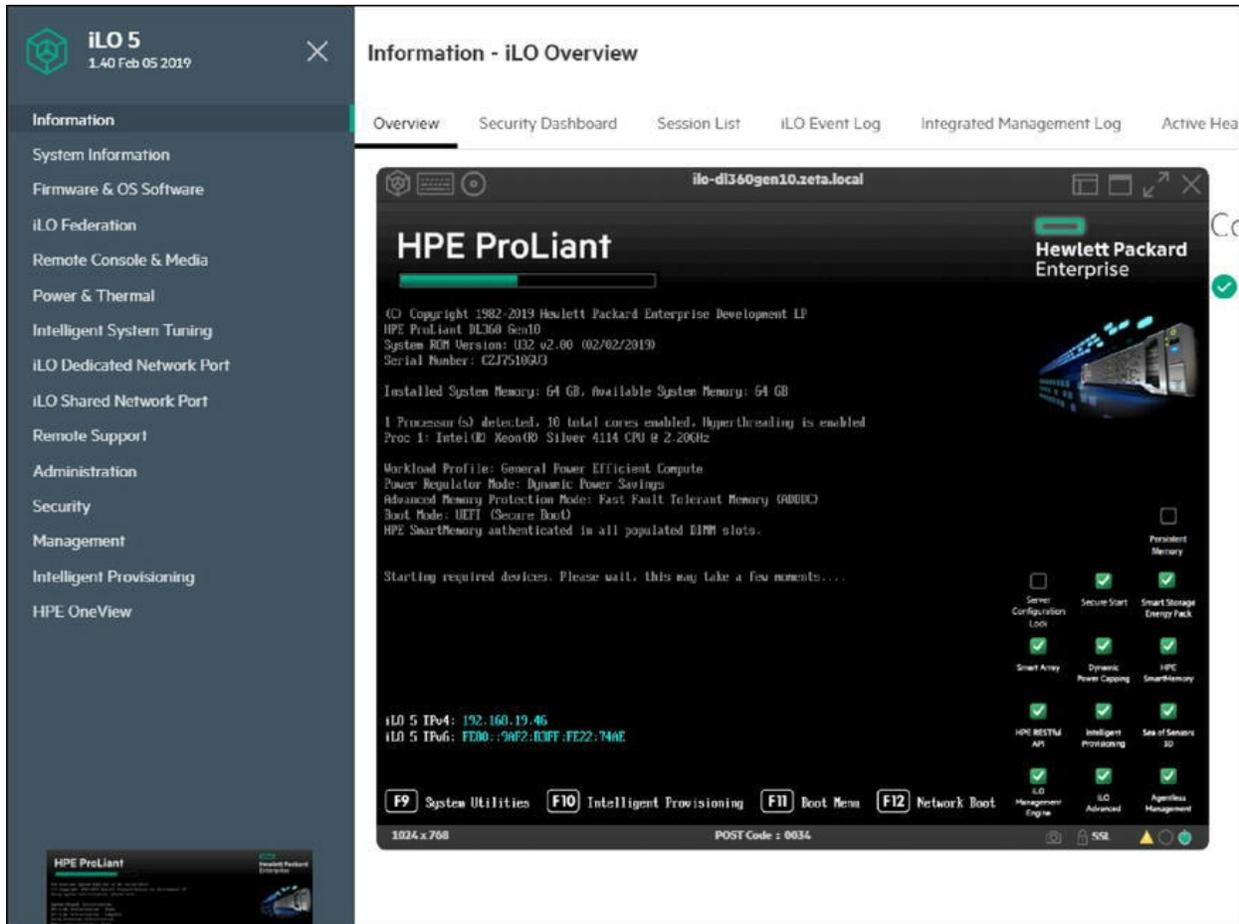

Figure 2-114 ProLiant POST screen
3. Near the end of the boot process, the POST sequence runs and the POST screen displays, as shown in Figure 2-114. This screen is visible for several seconds before the system attempts to boot from a supported boot device. During this time, you can do the following: